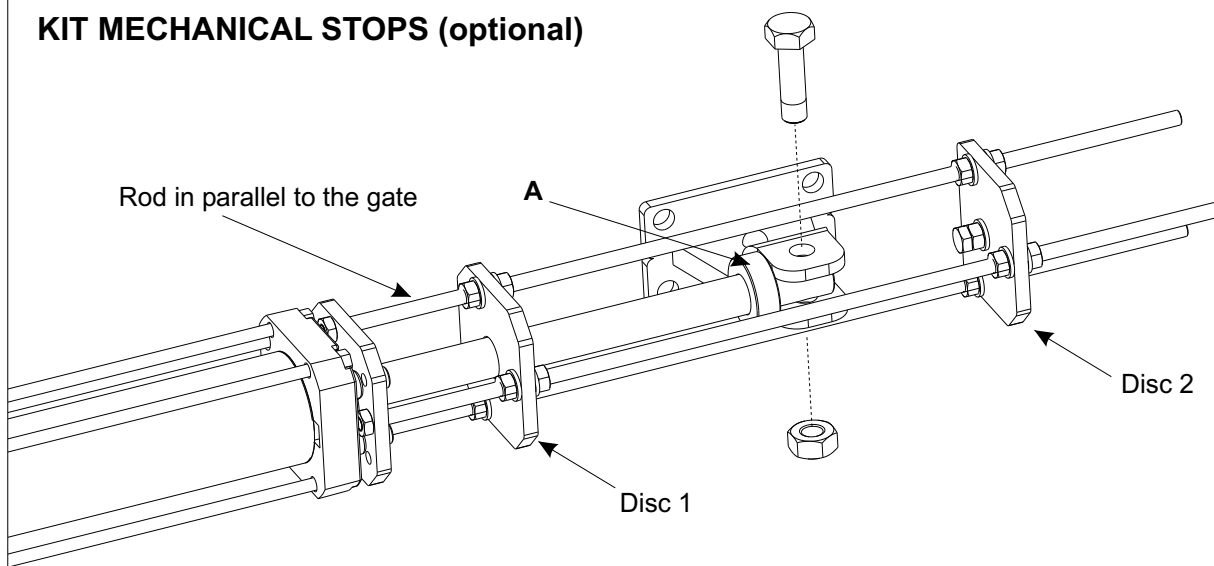

Fig. 16
- Put the limit switch stops on the front flange of the unit with the two rods (of the three which are present on the stop) which are in parallel to the gate (Fig. 16)
- Put the provided bush (A) into the shaft.